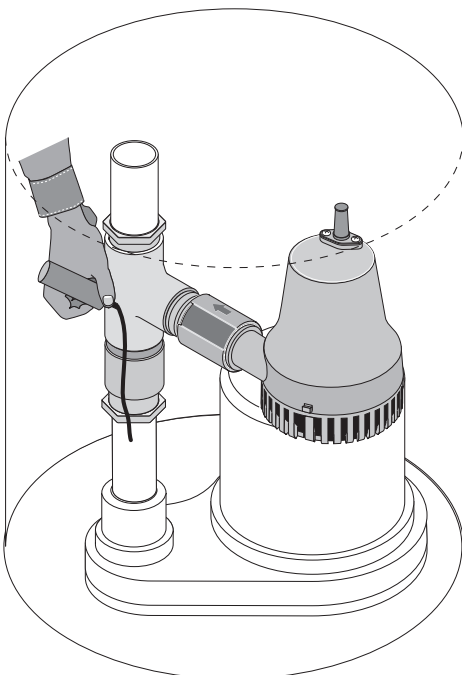

Figure 3: Mark joints for gluing
9. Study the assembly in the pit for a moment and then adjust it so that nothing interferes with the primary pump or its switch. Mark the joints with a permanent marker so that you can realign everything after you pull it out of the pit for gluing (see Figure 3).